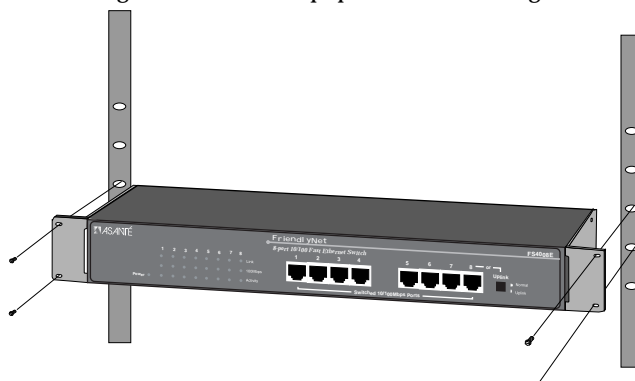

Figure 2-11 Mounting the FS4008E in an equipment rack
- 2 Mount the Switch in the equipment rack by screwing the mounting brackets to the equipment rack. See Figure 2-11.